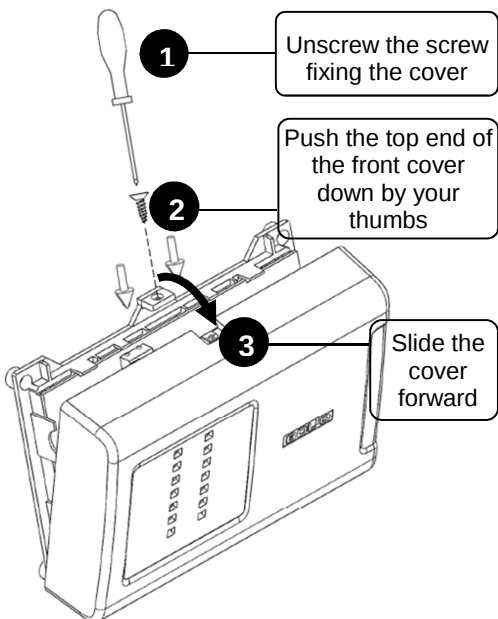

Figure 2. How to Remove the Cover
3.2.5 Remove the cover from the controller as shown in Figure 2.
3.2.9 Remove the cover from the controller as shown in Figure 2.
3.3.3 Remove the cover from the controller as shown in Figure 2.